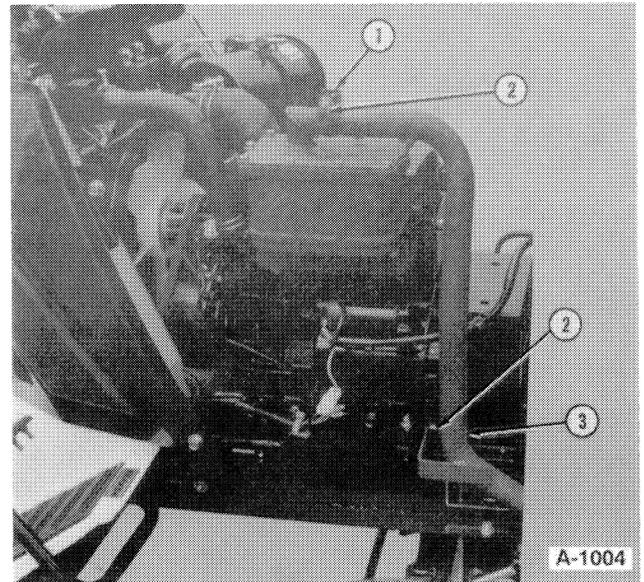

FIGURE 1-7
6. Loosen the exhaust pipe clamp, 1, and fixed bolts, 3, and remove the exhaust pipe, 2, Figure 1-7.